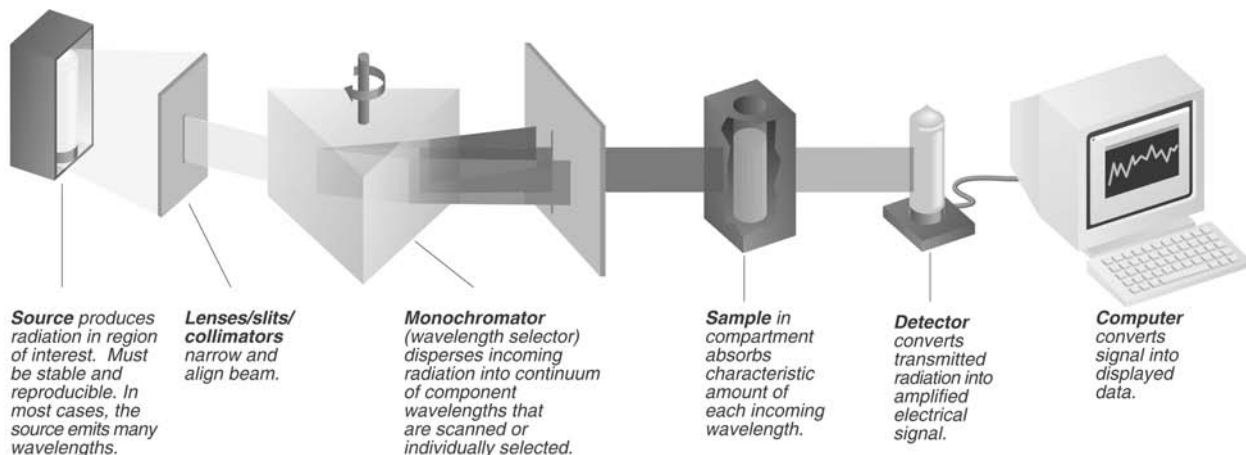

Figure 1. A schematic diagram illustrating the interior components of a typical spectrometer.
Scientists use an instrument called a spectrometer to quantitatively determine the amount of light absorbed by a solution. The primary inner parts of a typical spectrometer are illustrated in Figure 1. The spectrometer has a light source that emits light which is focused with a small slit. The wavelength of interest is then selected using the monochromator ("mono" meaning one and "chromate" meaning color) and an additional slit. The selected light then reaches the sample and depending on how the photons interact with the compound of interest, the light is either absorbed or passes straight through. By comparing the amount of light entering the sample (P_0) with the amount of light reaching the detector (P), the spectrometer is able to tell how much light is absorbed.